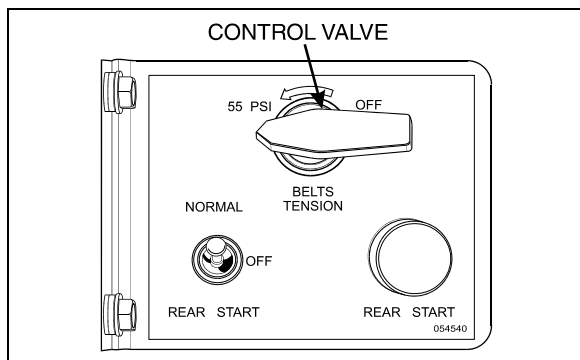

FIGURE 15: ENGINE COMPARTMENT
4. Locate the belt tensioner control valve (Fig. 15). Turn handle clockwise in order to release pressure in belt-tensioner air bellows and loosen belts. Remove the belts.